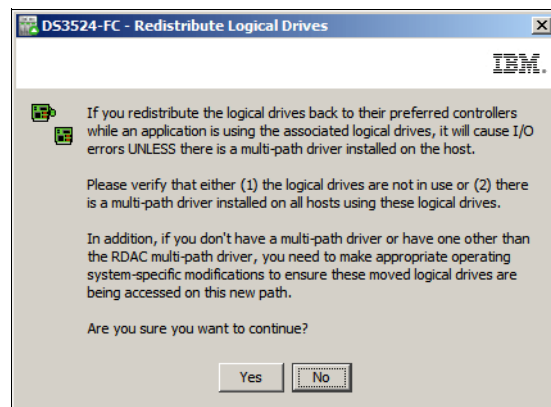

Figure 14-141 Redistribute Logical Drives confirmation
2. The window shown in Figure 14-141 will be displayed. Read the information and then click the **Yes** button to redistribute the logical drives to their preferred controller.